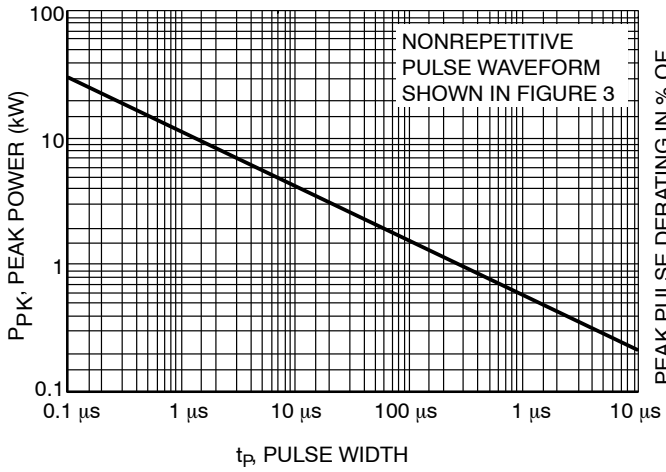
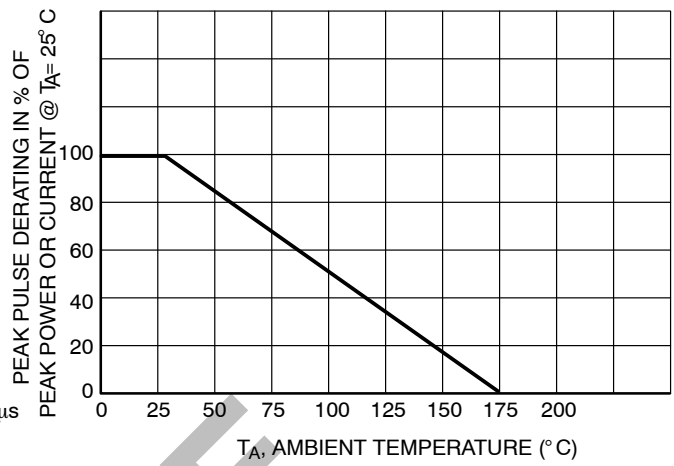
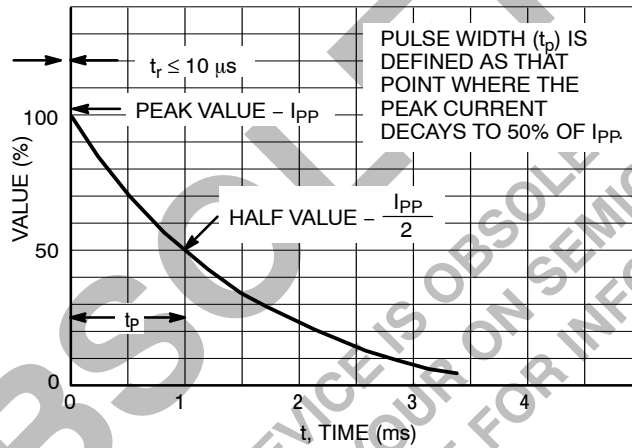
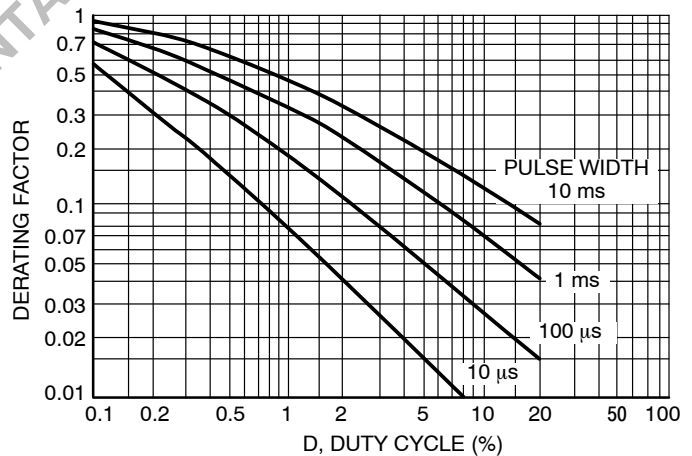

Figure 1. Pulse Rating Curve
Figure 2. Pulse Derating Curve
Figure 3. Pulse Waveform
Figure 5. Typical Derating Factor for Duty Cycle
1. Nonrepetitive current pulse per Figure 3 and derated above  $T_A = 25^\circ\text{C}$  per Figure 2.
3. Surge current waveform per Figure 3 and derate per Figures 1 and 2.
The data of Figure 1 applies for non-repetitive conditions and at a lead temperature of 25°C. If the duty cycle increases, the peak power must be reduced as indicated by the curves of Figure 5. Average power must be derated as the lead or ambient temperature rises above 25°C. The average power derating curve normally given on data sheets may be normalized and used for this purpose.
At first glance the derating curves of Figure 5 appear to be in error as the 10 ms pulse has a higher derating factor than the 10 μs pulse. However, when the derating factor for a given pulse of Figure 5 is multiplied by the peak power value of Figure 1 for the same pulse, the results follow the expected trend.